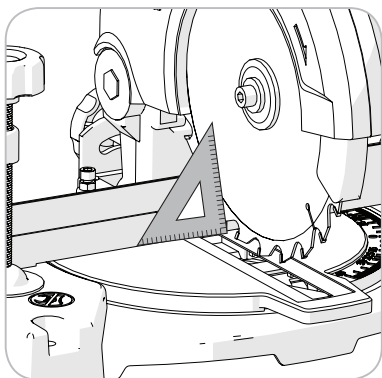

Fig. 8
- Place the Set Square on the table with one short edge against the table and the other short edge against the blade (avoiding the TCT tips). (Fig. 8)